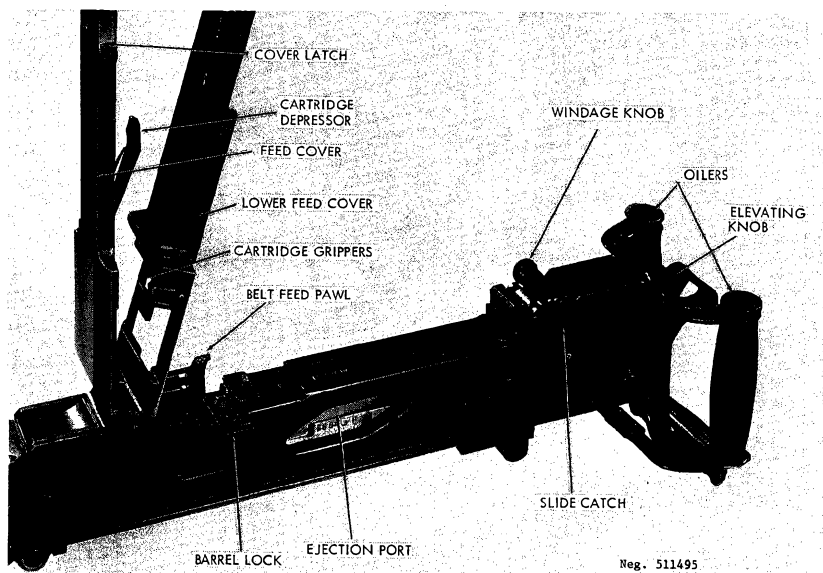

Figure 196. SG-43 receiver detail.
c. Open the feed cover by pressing the cover catch (fig 196) forward and swinging the cover up. Place the belt in the feedway with the rim of the first cartridge between the cartridge feed slide grippers (fig 196); then close the cover. Pull the operating handle fully to the rear and push it fully forward; this handle is located between the grips on the SG43 and SG43M or on the right side of the SGM series guns.
d. Lift the rear sight leaf to a vertical position and adjust it for the desired range by pressing the slide catch (fig 196) and moving the slide along the leaf until the upper edge of the slide is aligned with the line below the number that corresponds to the range in hundreds of meters. Final fine elevation adjustment is made by the elevating knob, and lateral or windage adjustment can be made by the windage knob (fig 196). Use the range figures on the right side of the leaf when firing light bullets (Type L or LPS); use the left side of the leaf when firing silver-, white-, or yellow-tipped bullets. The front sight is adjustable for windage and elevation zero; loosen the nut on the front sight base, and move the sight from side to side, as necessary, to zero; then screw the nut in or out, as necessary, for elevation zero.
f. To unload or clear the weapon, open the cover by pressing the cover catch forward. Lift the belt from the feed pawls (fig 196) and remove it. Lift the lower feed cover and remove the cartridge from the cartridge grippers. Inspect to insure that no cartridges remain in the gun. Pull the operating handle to the rear, and while holding it, raise the safety, press the trigger, and ease the operating handle forward. Close the covers and lower the rear sight.